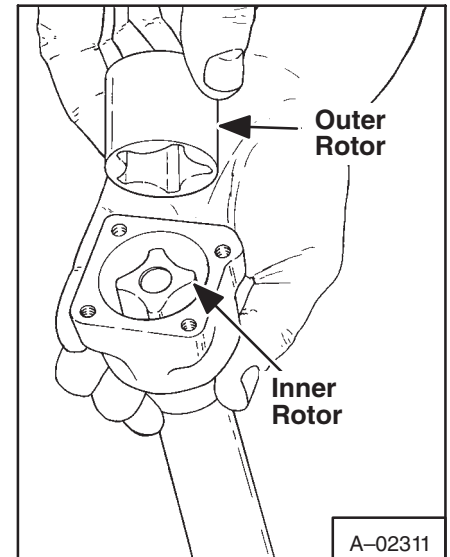

Fig. 7-63 Rotor And Oil Pump
2. Install the drive shaft complete with inner rotor, then the outer (driven) rotor making sure that the face which holds the tapered edge enters the pump body first (Fig. 7-63). Now make the three following dimensional checks:
1. Install the outer rotor making sure that the face which holds the tapered edge enters the pump body first (Fig. 7-63).